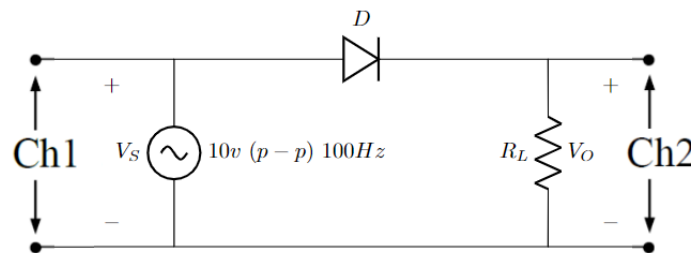

Figure 1: Half-Wave Rectifier
1. Construct circuit of Figure 1. Observe V_s and V_o simultaneously on Channel 1 and Channel 2 of the oscilloscope respectively.